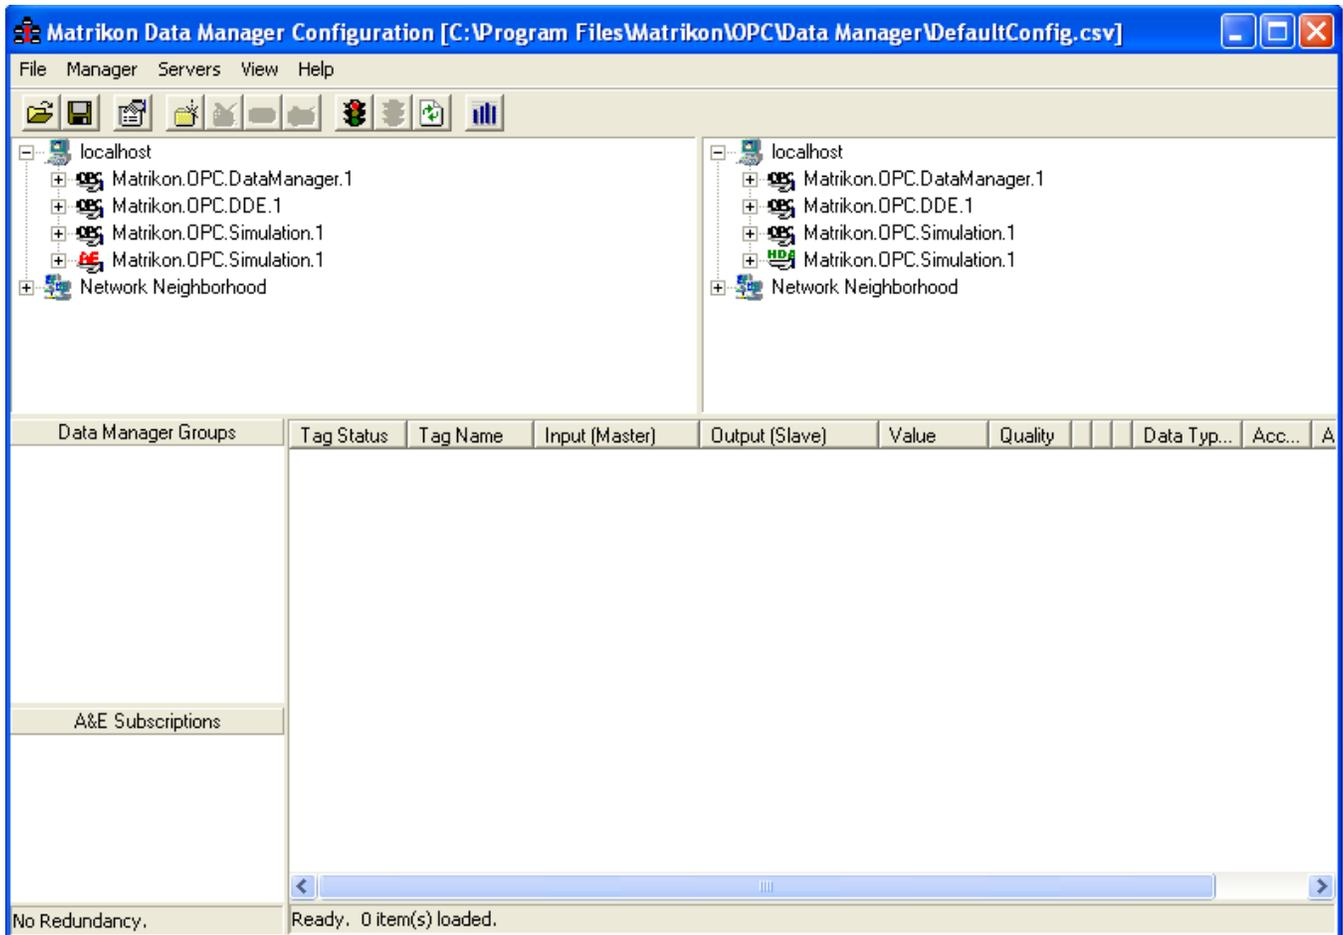

Figure 20 - MatrikonOPC Data Manager Configuration Window
4. The **MatrikonOPC Data Manager Configuration** screen (Figure 20) appears.